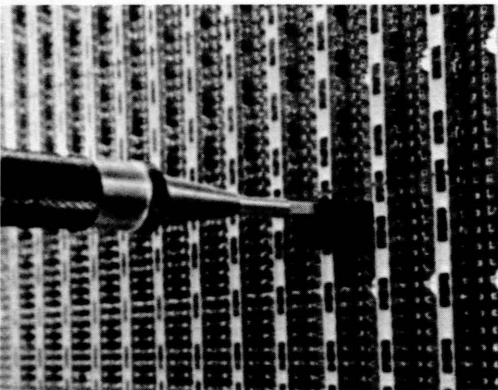

Figure 2-39. Inserting Replacement Pin
22. Install the pin driver bit (part 453774) into the impact tool and then insert the replacement pin (Figure 2-39) into the driver bit with the squared end of the pin into the driver head.